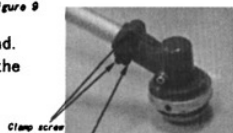

Figure 10
5. Fasten the pipe clamp securely with two clamp screws see figure 10